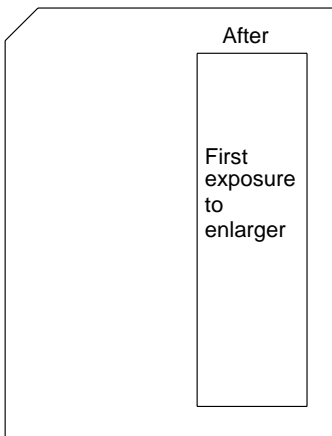
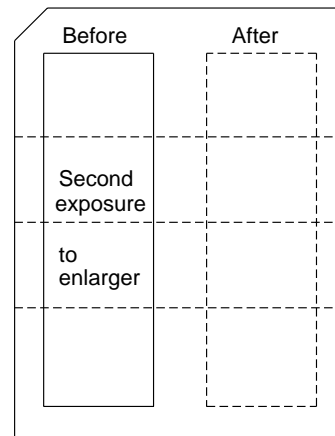

Figure 1
Figure 3
1. Set up the enlarger. Insert the negative carrier with no negative in it into the enlarger. Set up the easel with a mask to expose an area as shown in Figure 1.
4. Make the first enlarger exposure. *All* the lights should be off. For orientation, cut a corner from a fresh sheet of the photographic paper, and position the paper under the mask (see Figure 1). Expose the paper, using the time and aperture you determined in step 3. Label this area "After" to indicate safelight exposure that occurs *after* the enlarger exposure.
6. Make the second enlarger exposure. With the paper oriented as in step 4 (Figure 1), position the marks to expose the opposite side of the paper. Give this area an exposure identical to the one given in step 4. Label this area "Before" to indicate safelight exposure that occurs before the enlarger exposure. (See Figure 3.)